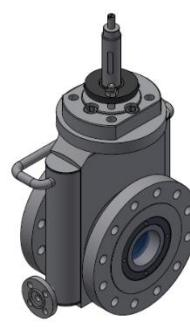

Fig. 9: 82.7-02 heat-
- **Heating jacket HZM** from DN 150 (Fig. 9)